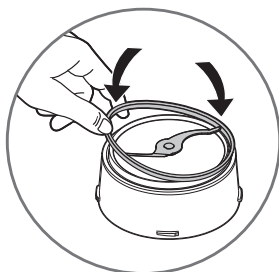
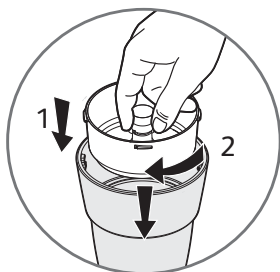

fig.2
fig.3
- This universal mill (F) is equipped with a bowl (f3) that prevents access to the blades during use.
- Rotate the bowl (F) and pour the ingredients.
- Position the sealing gasket (f1) in its recess on the mill blade unit (f2) (figure 2). Position the mill blade unit (f2) on the bowl (f3), and lock the universal mill by rotating the blade unit (f2) through a turn in the clockwise direction (figure 3).